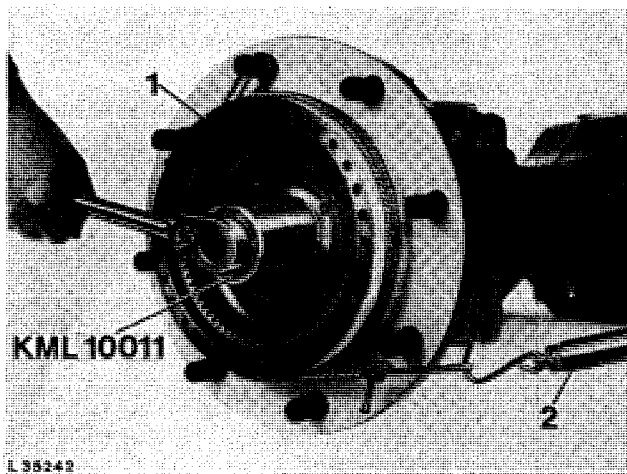

Fig. 56 — Checking Rolling Drag Torque of Hub Bearings
10. Use special socket spanner KML-10011 to tighten first slotted nut 19 (fig. 55) until a rolling drag torque of 4 to 7 Nm (3 to 5 ft-lb) has been obtained. This value equals a pull on spring scales of 35 to 65 N (8 to 15 lb) measured at circumference of wheel hub (see fig. 56).